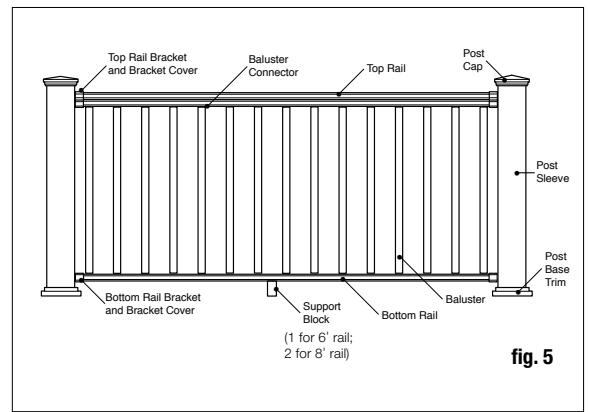

fig. 5
Step 1: Determine the number of railing posts needed for your deck. Post spacing is either 6' on-center or 8' on-center depending on the rail length chosen. Example: A 12' x 16' deck attached to a building with a 4' access opening on one side will require a total of eight posts (fig. 5).